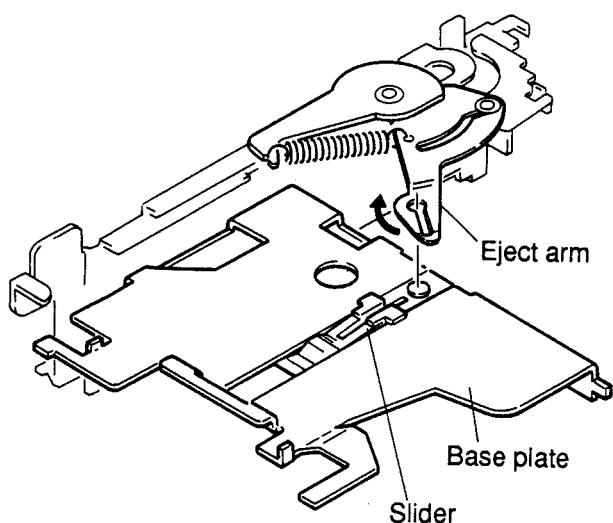

Figure 18
1. When mounting the cassette holder and the base plate, insert the slider shaft into the eject arm and fix them turning the slider shaft in the direction indicated by the arrow in the figure. Make sure that the cassette holder and the base plate are in the cassette-in mode during this operation. (Refer to Figure 18).